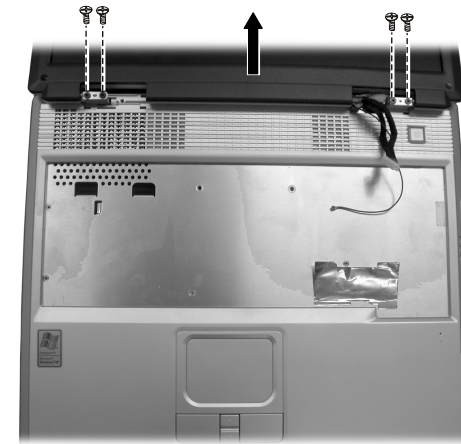

Figure 2-19 Free the LCD assembly
5. Remove the four screws and put up the LCD assembly, then free the LCD assembly. (Figure 2-19)